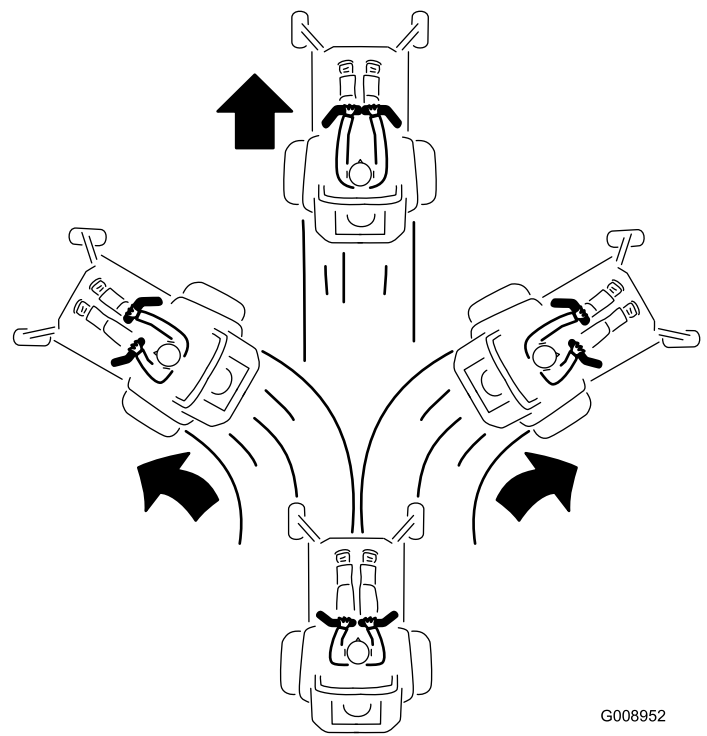

Figure 23
3. To go forward, slowly push the motion control levers forward (Figure 23).